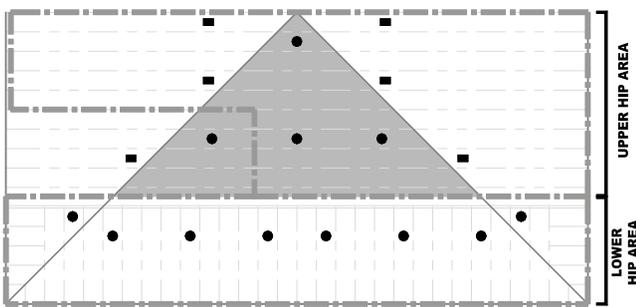

FIGURE 19A
- Calculate the 8 most demanding contiguous sprinklers along the eave. This may include sprinklers on both sides of the hip line as shown. See Figure 19A.
If there are 4 sprinklers or less in the shaded area (Figure 19A):